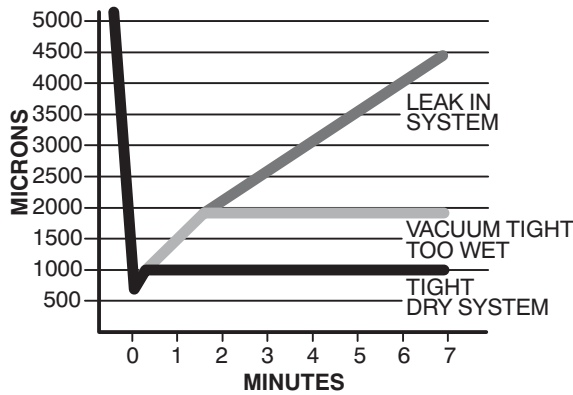

Fig. 27 — Deep Vacuum Graph
7. Evacuate using either the deep vacuum or the triple evacuation method (see Fig. 27 and 28).
The deep vacuum method requires a vacuum pump capable of pulling a vacuum of 500 microns and a vacuum gauge capable of accurately measuring this vacuum depth. The deep vacuum method is the most positive way of assuring a system is free of air and liquid water (see Fig. 27).